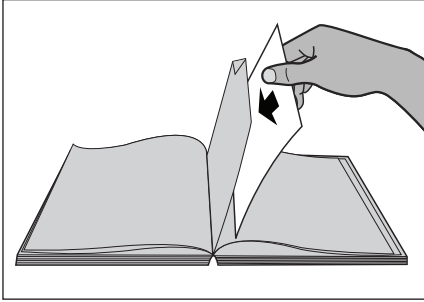

FIGURE 13
1. **Insert New Page.** Open your document flat on the table and fold down the corner of the page you want to remove. Behind this page, insert the sheet you want to add. Position this new replacement page into the document as close to the adhesive as possible, but not completely flush. (fig. 13)